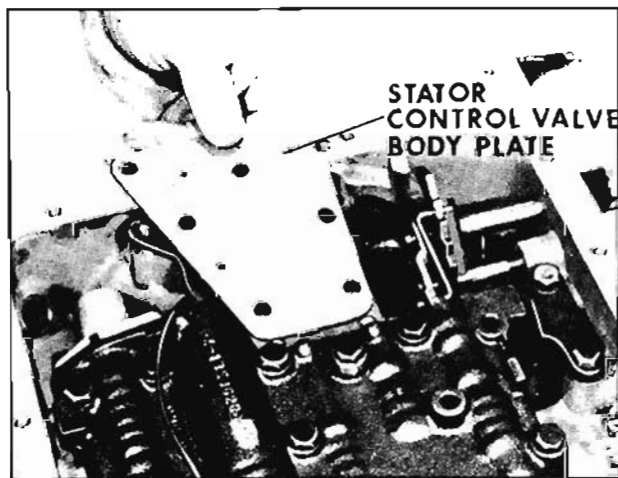

Fig. 6-462 Installing Plate
6. Install the stator control valve plate. (Fig. 6-462)